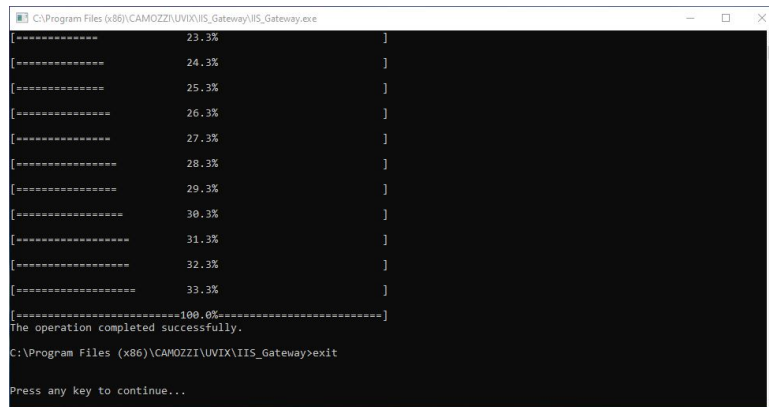

Figure 4.19: IIS Installation Completion
9. If you have decided to install IIS, wait for it to finish, and press any key, as shown in figure 4.19.